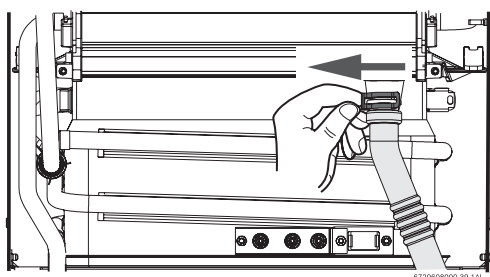

Fig. 19 Disconnect drain tube
- Remove the clip and disconnect the drain tube, see Fig. 19.